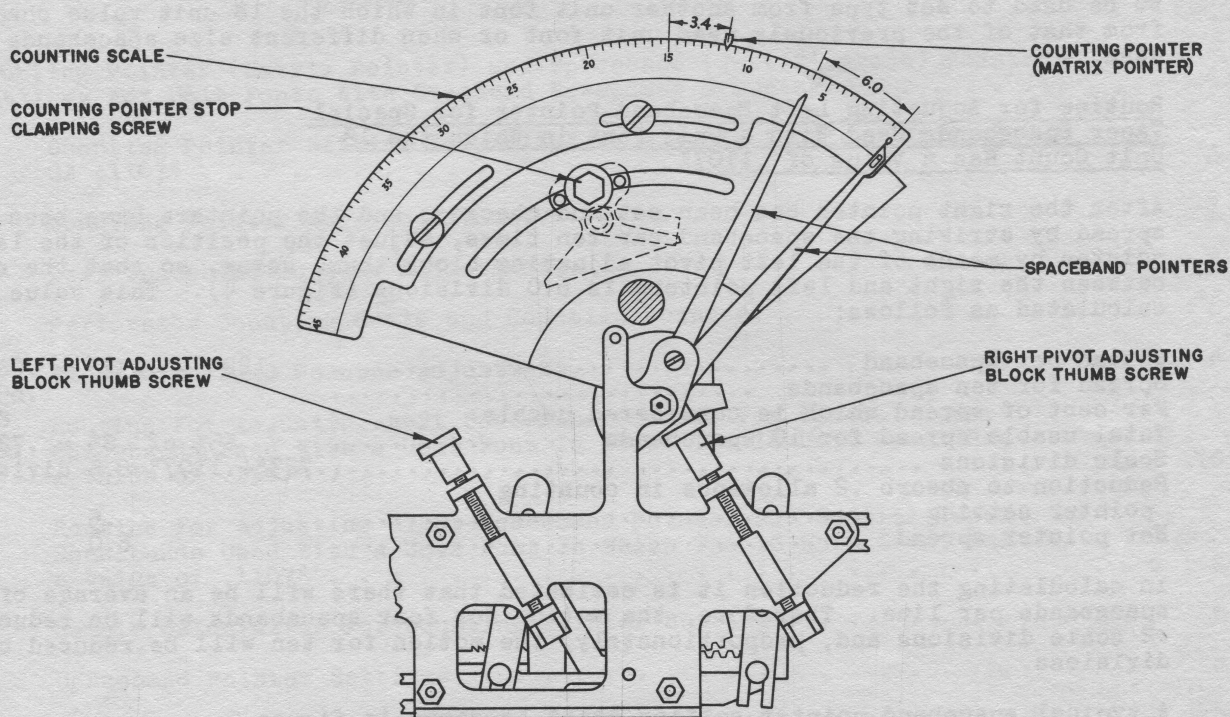

FIGURE 4
- a. Move the counting pointer by hand to a convenient even scale graduation, such as 15 (See Figure 4).
After the right pointer has been set and checked, and the pointers have been spread by striking the spaceband bar ten times, adjust the position of the left pointer by means of the left pivot adjusting block thumb screw, so that the spread between the right and left pointers is 6.0 divisions (Figure 4). This value is calculated as follows: